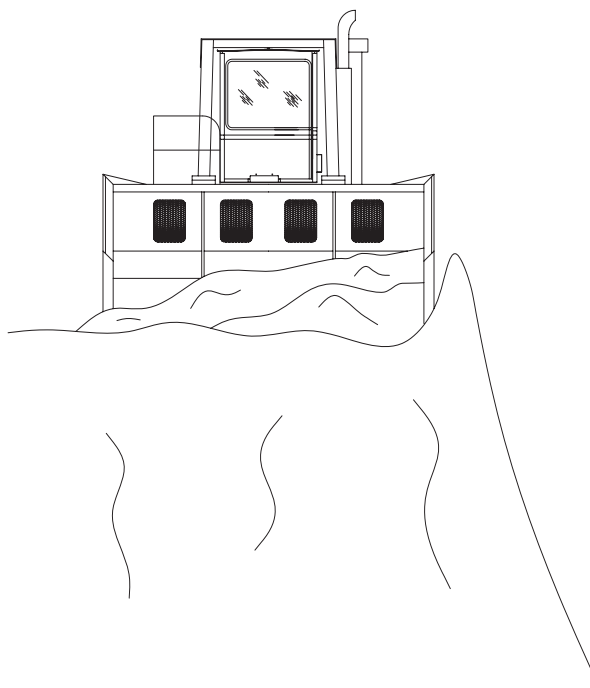

Figure 5-18
1. When cutting on the edge of a pile, be certain to leave at sufficient berm. There are safety as well as practical reasons for this procedure (See Figure 5-18).